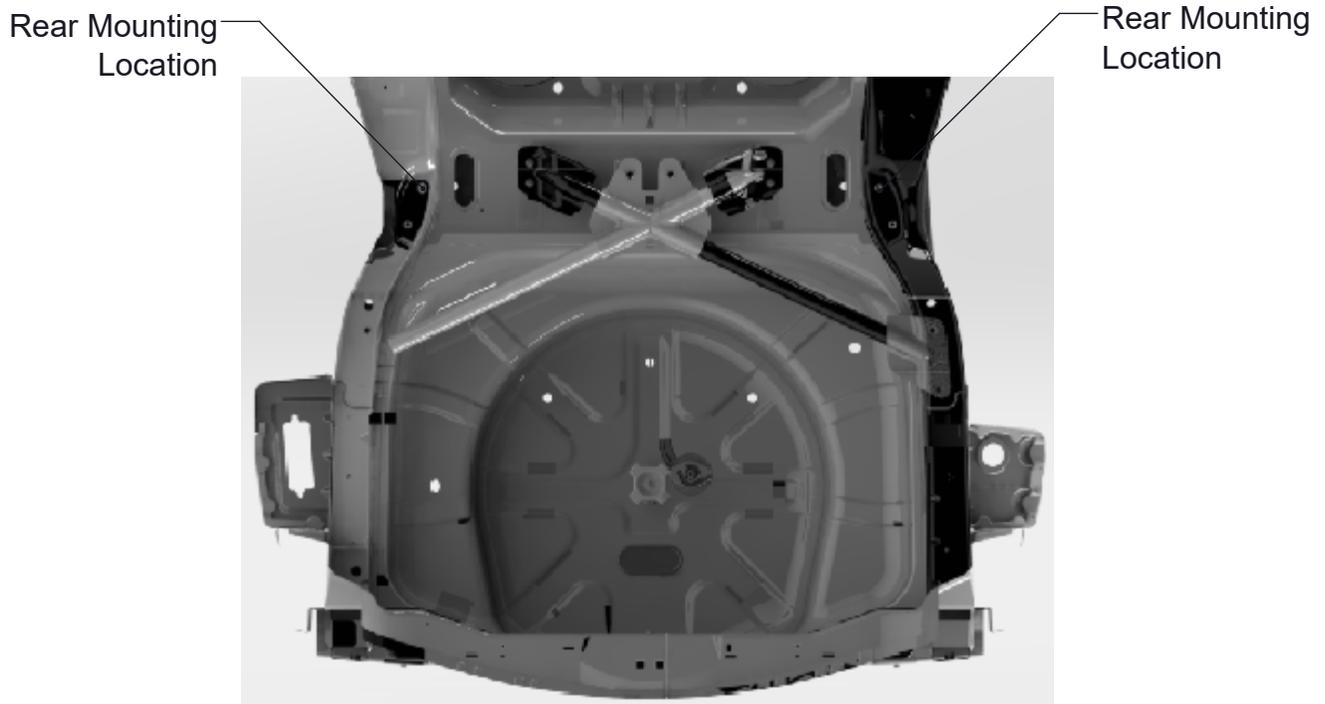

FIG 1 - Rear Mounting Location
1. Place the bottom panel of the partition in the vehicle with the flat side facing the rear of the vehicle. Place the top frame in the vehicle with the open side facing the rear of the vehicle as shown above. Attach the top frame to the bottom panel using (4) 1/4-20 x 0.75 carriage bolts, washers and nylok nuts included in the hardware bag.
2. Attach the lower mounting brackets to the bottom panel using (2) 1/4-20 x 0.75 carriage bolts, washer and nylok nuts from the hardware bag. Attach these brackets to the vehicle using the (2) mounting bolts in the front floor cover panel. See Fig. 1 below for their location.
3. Attach the upper mounting brackets to the top frame using (4) 1/4-20 x 0.75 carriage bolts, washers and nylok nuts from the hardware bag. Secure the upper mounting brackets to the vehicle by holding the brackets against the headliner and inserting the 1/4-14 x 1.00 self drilling screws provided into the rear roof channel.